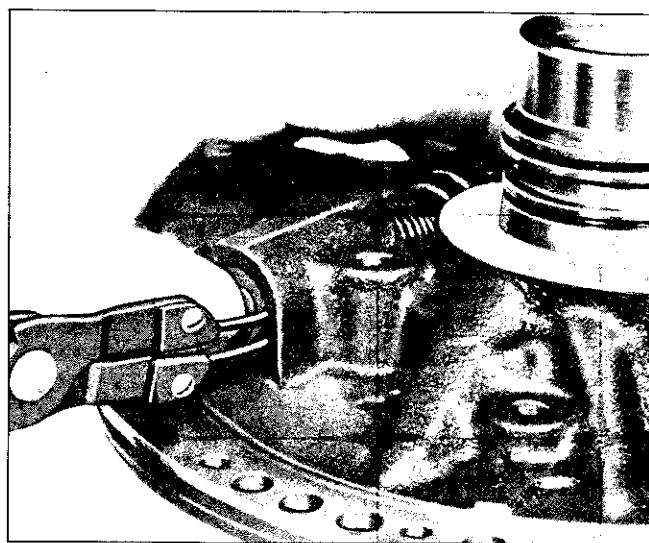

Fig. 7F-74 Removing Boost Valve Sleeve Snap Ring
8. Remove boost valve sleeve, valve, spring, washer and pressure regulator valve (Fig. 7F-75).
9. Remove oil pump seal with a small pry bar and discard seal (Fig. 7F-76).